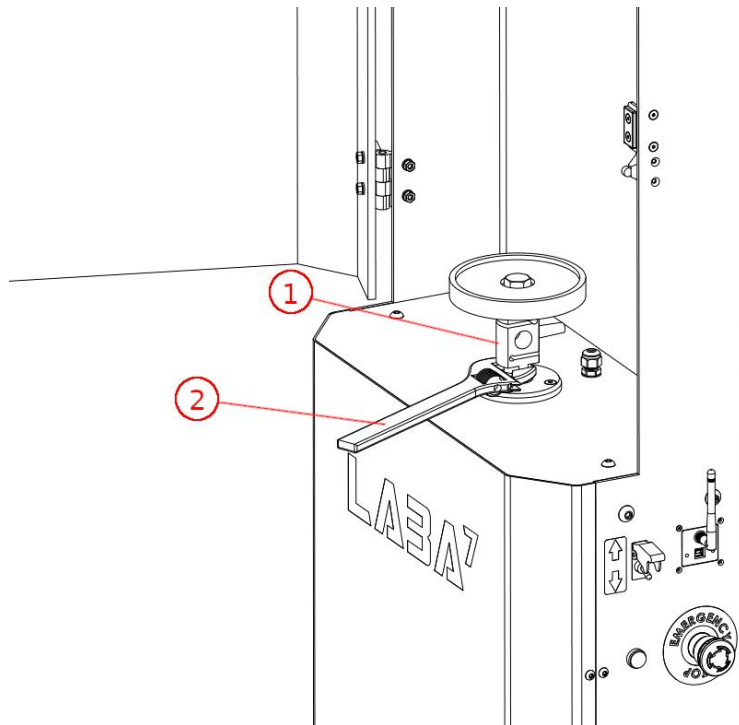

Figure 7
- When replacing a bottom adapter, it is important to hold the load cell in place (Figure 7 – Step 1).
- Use a wrench to keep the load cell in place, and then unscrew the adapter (Figure 7 – Step 2).